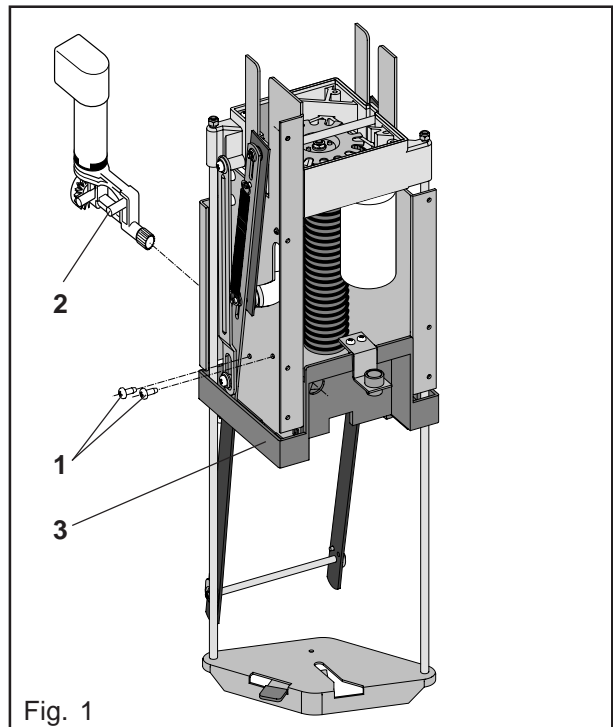

Fig. 1
- Pull the dosing motor (2) backwards.
- (Fig. 1)